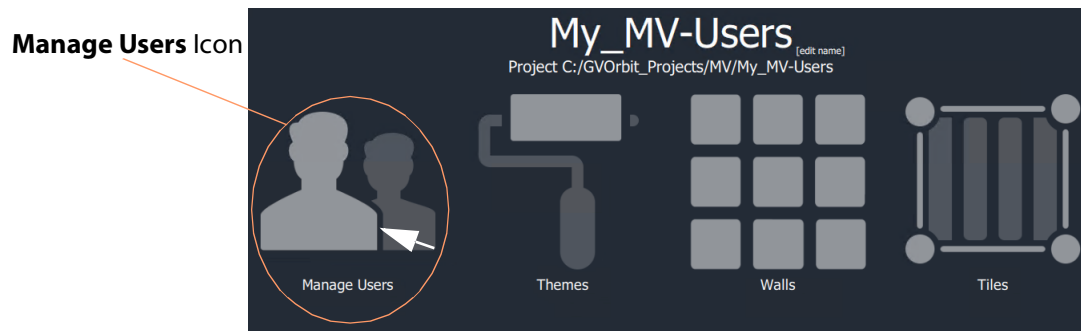

Fig. 4-2: Manage Users icon on Home Screen
The **Manage Users** tab is opened. See Figure 4-2 on page 144.
- 3 Click on the large **Manage Users** icon. See Figure 4-2.